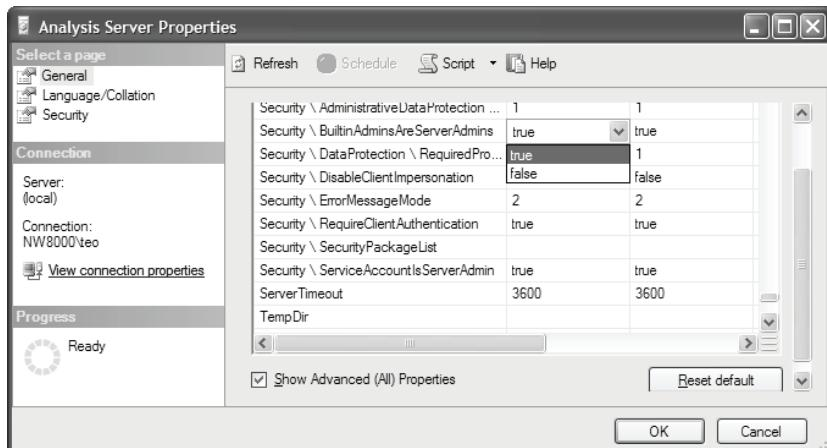

Figure 16.3 Use the server properties to remove local Administrators from the Server role.
6. Change the Security\BuiltinAdminsAreServerAdmins property to *false* (Figure 16.3). You don't need to restart the server for this change to become effective.